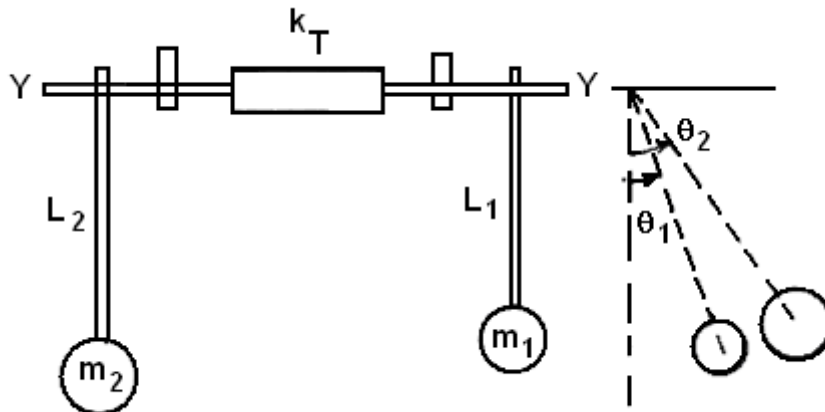

Figure 4:
7. Two pendulums of different lengths are free to rotate y-y axis and coupled together by a rubber hose of torsional stiffness 7.35×10^3 Nm / rad as shown in figure 4. Determine the natural frequencies of the system if masses $m_1 = 3$ kg, $m_2 = 4$ kg, $L_1 = 0.30$ m $L_2 = 0.35$ m. [16]